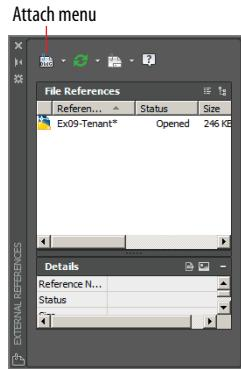

FIGURE 9.27 Attaching a DWG file in the External References palette
2. Select the file tab of Ex09-Tenant.dwg. Then select the ribbon's View tab, and click the External References Palette button in the Palettes panel. Open the Attach menu, as shown in Figure 9.27.